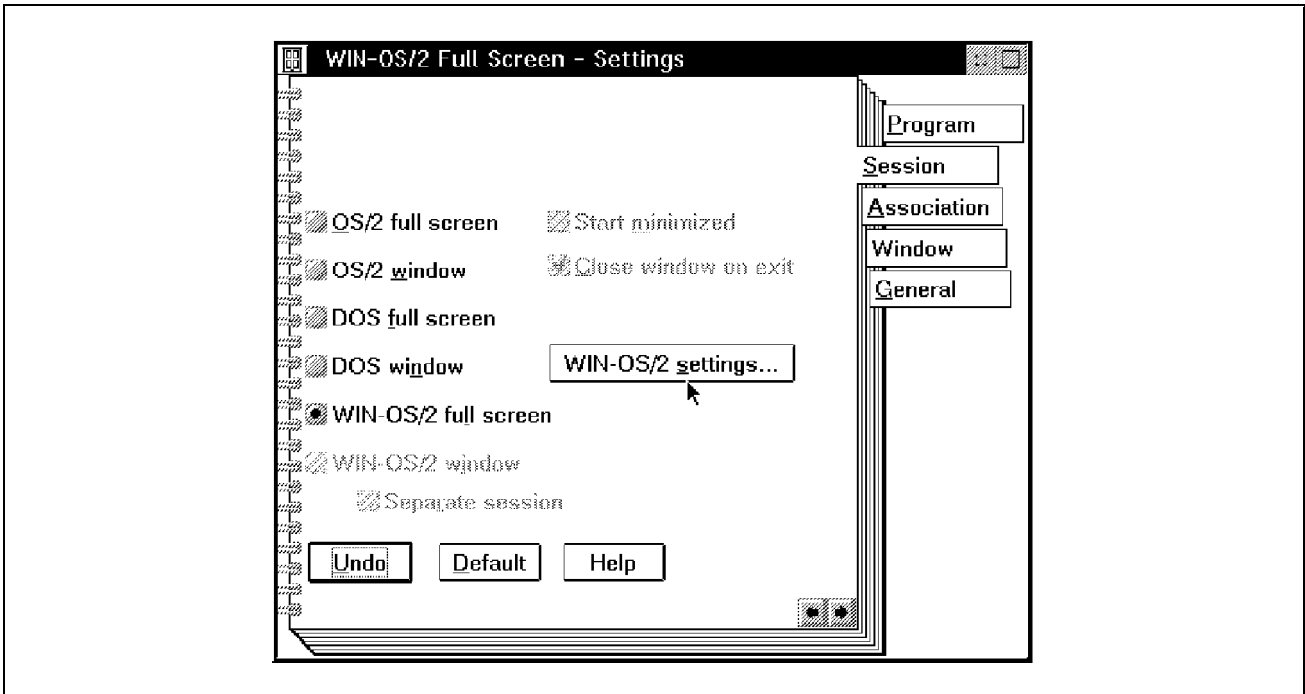

Figure 20. Selecting WIN-OS/2 Settings
4. Select the **Session** tab of the notebook and highlight the **WIN-OS/2 Settings** pushbutton. Press Enter. This page of the Setting notebook is shown in Figure 20 on page 83.